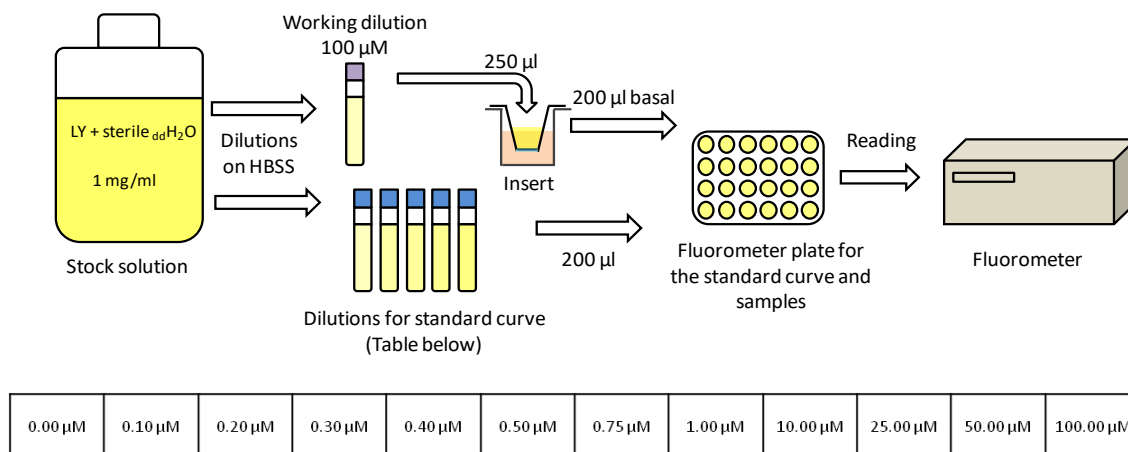

Figure 3 - General Procedure and Recommended Concentrations for Lucifer Yellow Standard Curve
Prepare a Lucifer Yellow (LY) Stock Solution of 1mg/ml in sterile ddH_2O . Aliquot (For example, 500 μ l) and store at $-20^{\circ}C$. Pre-warm ($37^{\circ}C$) the Working dilutions of LY before use (see Figure 3, below for recommended Working dilutions).
- ii. Add 250 μ l of LY Working dilutions, as recommended in Figure 3 below, into the wells on the wells in the apical compartment.